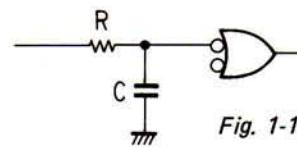

Fig. 1-18
- The connection of Fig. 1-18 is used for eliminating any narrow pulses superimposed on the input or for obtaining short delays of the rising and falling edges, etc. This circuit is very useful in preventing the oscillation of the entire system (racing), or for preventing chattering of the inputs, etc.